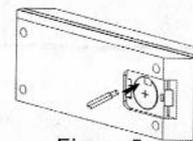

Figure 5
1. Remove the battery cover and with a screwdriver slightly press down near the the anode clip. (Fig.5)